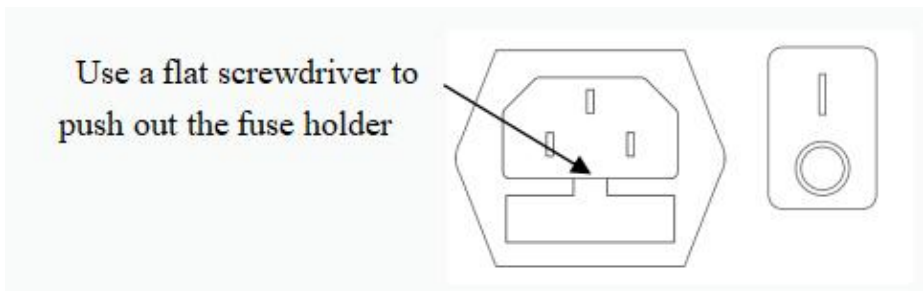

Figure 15.1 Replacing the fuse tube
- 3) The fuse holder and power socket are integrated, and gently push out the fuse holder from the position shown in Figure 15.1 using the accompanying flat screwdriver or similar tool;